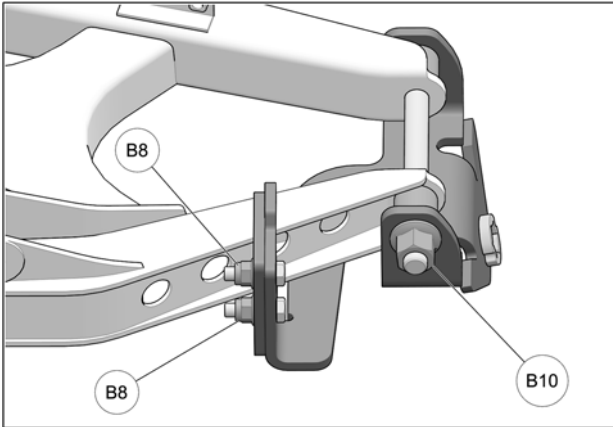

Fig. 11
11. Tighten M14 nut (B10) to 95 N•m [70 lb•ft] of torque and then M8 nuts (B8) to 25 N•m [18 lb•ft]. Fig. 11